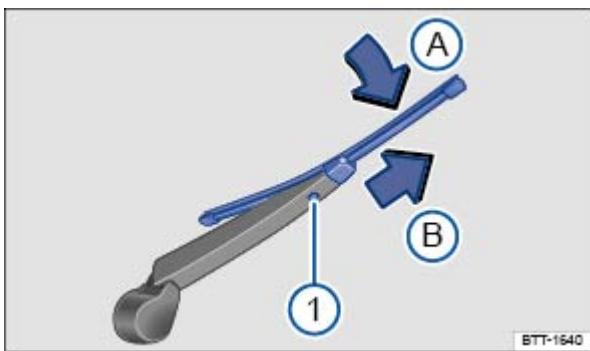

Fig. 168 Changing the rear window wiper blades.
- Press and hold the release button ⇒ Fig. 168①.
- While lifting the wiper blade in the direction of the wiper arm ⇒ Fig. 168 (arrow Ⓐ), pull off the wiper blade in the direction of the arrow Ⓑ. This may require moderate force.
- Install a new wiper blade of the **same length and type** onto the wiper arm by pushing in the opposite direction of the arrow ⇒ Fig. 168Ⓑ until it latches.